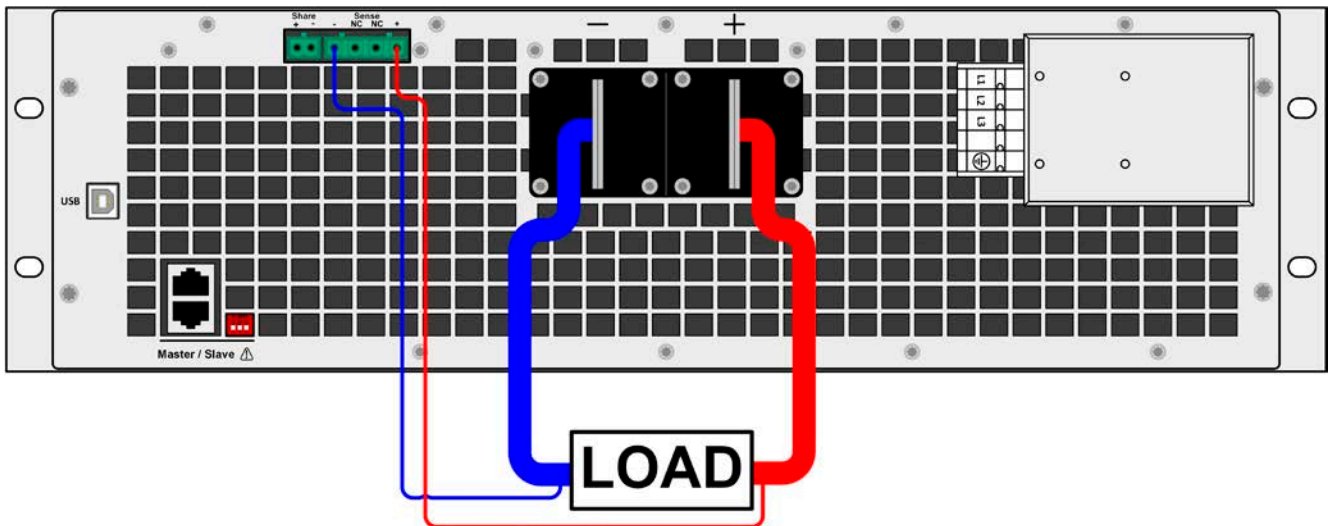

Figure 8 - Example for remote sensing wiring with a load in source mode
- Remote sensing is only effective during constant voltage operation (CV) and for other regulation modes the sense input should be disconnected, if possible, because connecting it generally increases the oscillation tendency
- The + sense cables must be connected to + on the load and - sense to - at the load, otherwise the sense input of the power supply can be damaged. For an example see *Figure 8* below.